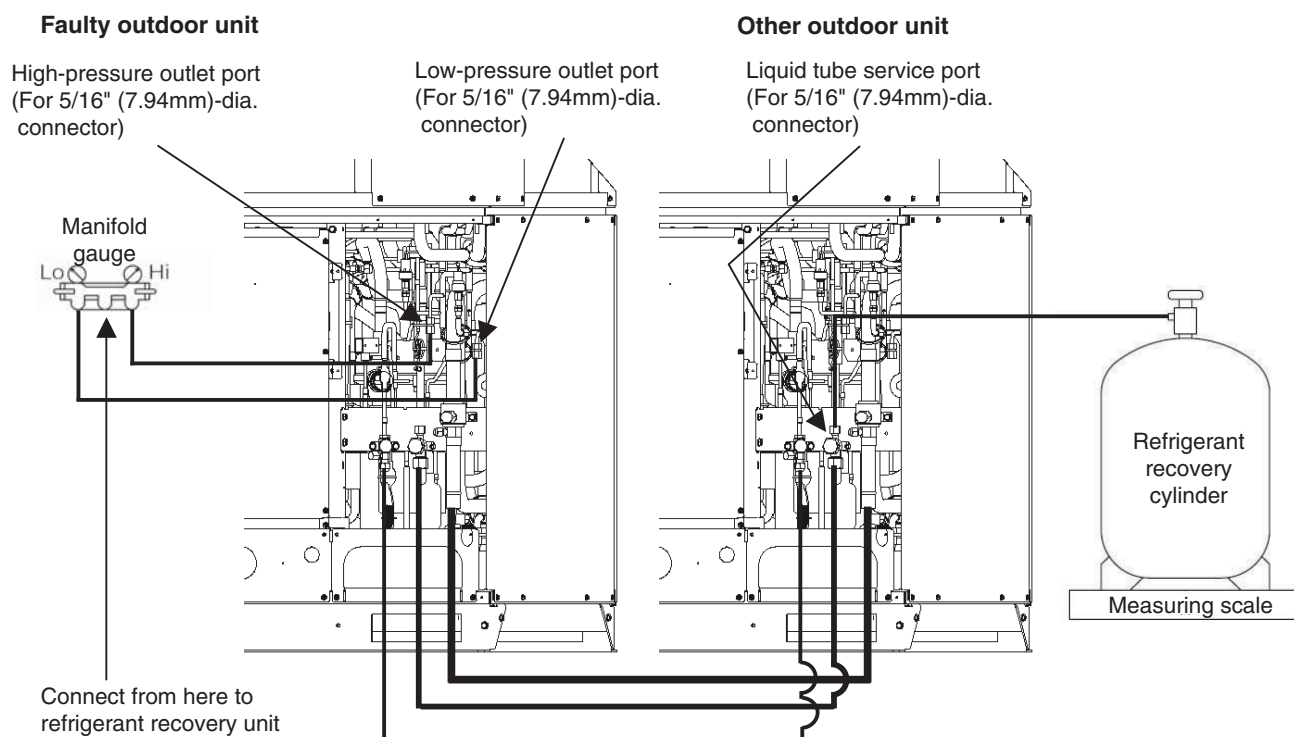

Fig. 20
- (1) Refer to "4. Backup Operation" and perform backup operation.
- (2) Connect the manifold gauge valves at the Lo side to the low-pressure outlet port of the outdoor unit to be repaired. Also connect the refrigerant recovery cylinder to any one of the normal outdoor units at the liquid line service port (Schrader-type push-to-release valve). Perform the connection work quickly so that no air is allowed to enter. (Fig. 20)